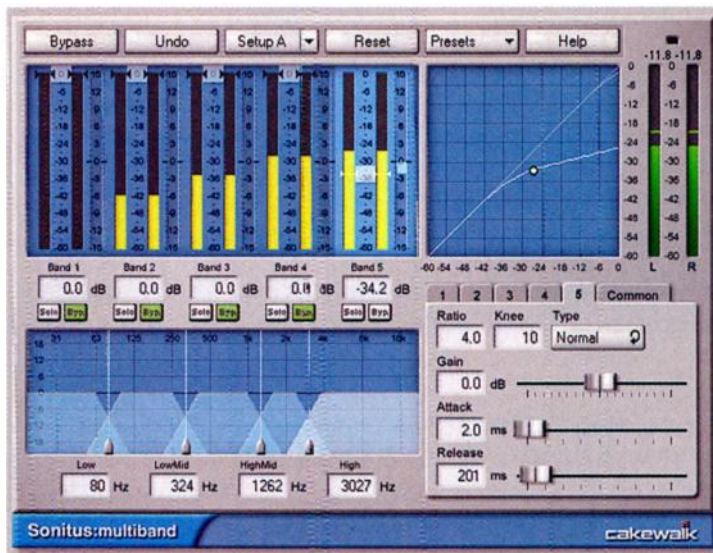

Fig. 1. A multiband compressor plug-in set up as a de-esser.
- Use a de-esser or a multiband compressor set to compress from 3kHz to 10kHz, and with a short attack and release time (Figure 1). Or use a compressor with a side chain, and boost the side-chain signal at around 7kHz.